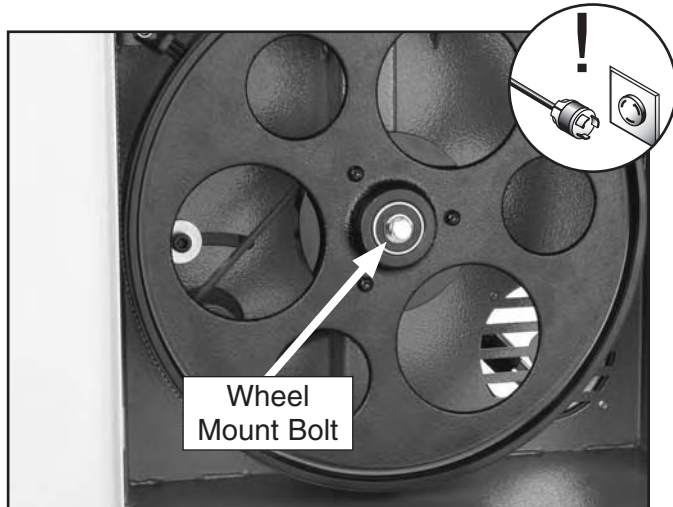

Figure 58. Example of wheel mount bolt.
6. Unthread the wheel mount bolt shown in **Figure 58** and slide the lower wheel off of the bearing shaft.